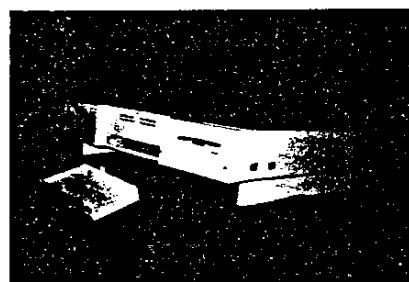

Fig. 2-2. Front/Side View
2.1.3 Remove mouse from connector, if present. See Fig. 2-2.
2.3.1 With the computer facing you and the drive on your right, remove the RAM DISPLAY COVER by applying light pressure on the top and bottom of the center panel and gently pulling toward you. See Fig. 2-2.